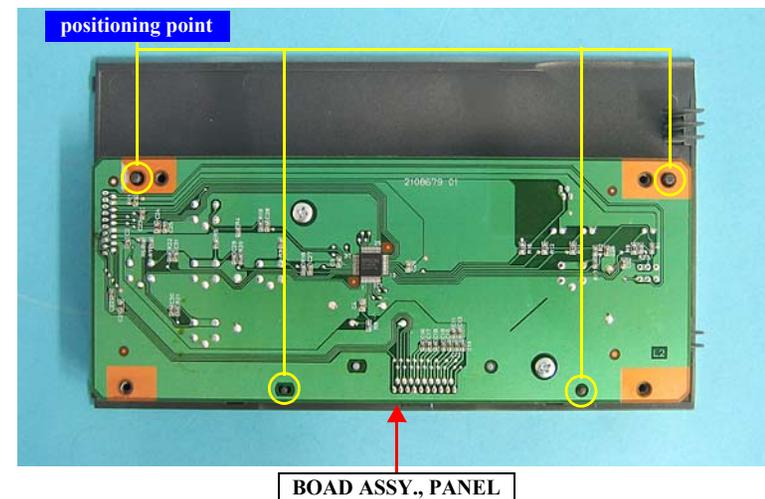

Figure 4-22. Removing the BOARD, ASSY., PANEL
- When installing the BOARD ASSY. PANEL, be sure to insert its four positioning holes over the guide pins two each on the OPERATION BUTTON and the OPERATION PANEL. See Figure 4-22.